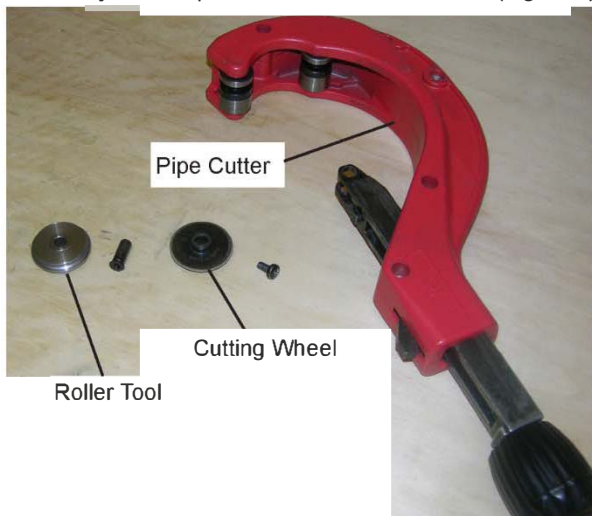

Figure 5: Pipe Cutter and Roller Tool
1. Replace the cutting wheel on the Franklin Fueling Systems Pipe Cutter with the Roller Tool (Figure 5)